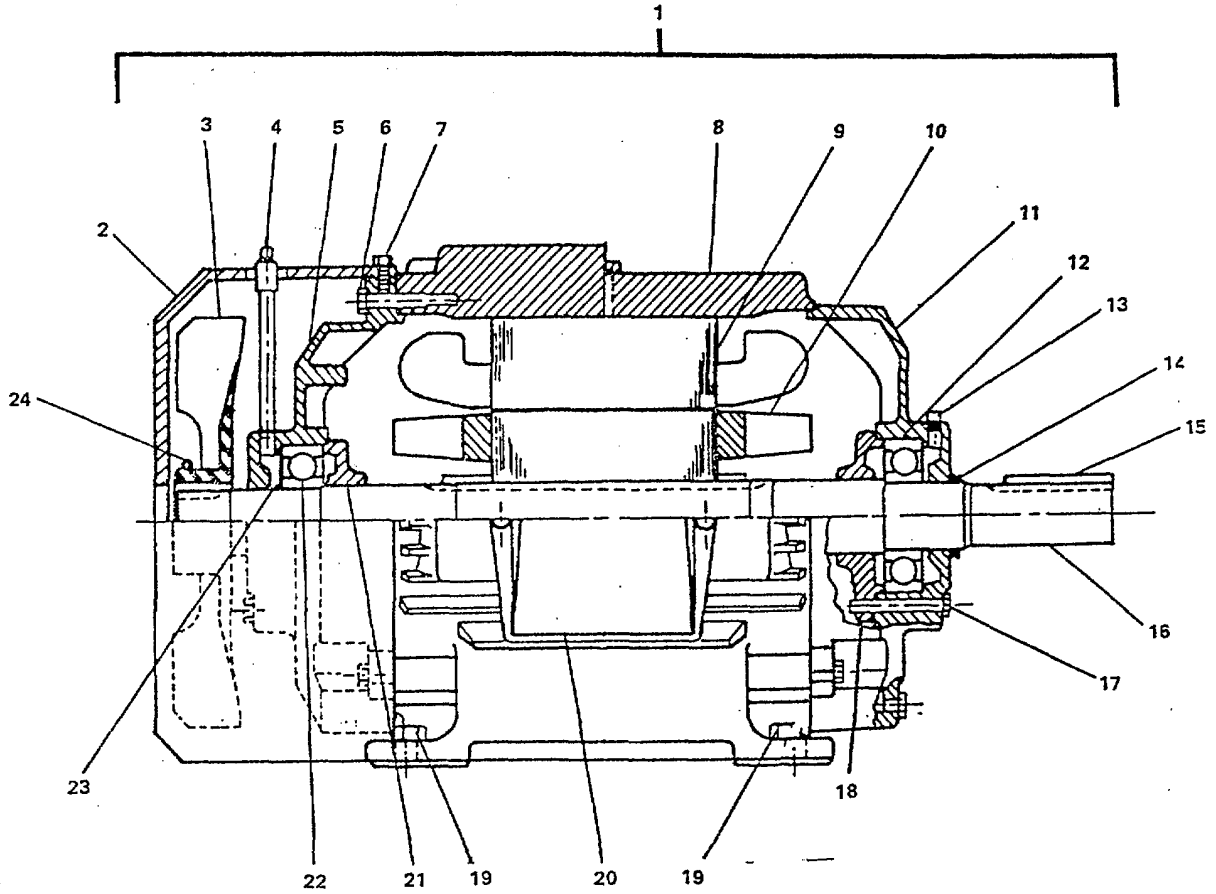

Figure 2-14. Alternating Current Motor (SF #3)
- h. Install metal grille (3) on heater enclosure (2) with mounting screws (1).
- (1) Unlock power panel and switch circuit breaker ON.
- (2) Refer to TM 55-1905-223-10 for details on control settings.
- (3) Remove "Out of Service - Do Not Operate" tag from circuit breaker.
**2-24. Repair Fan, Ventilating (Supply Fan #3). (FIGURE 2-14)**